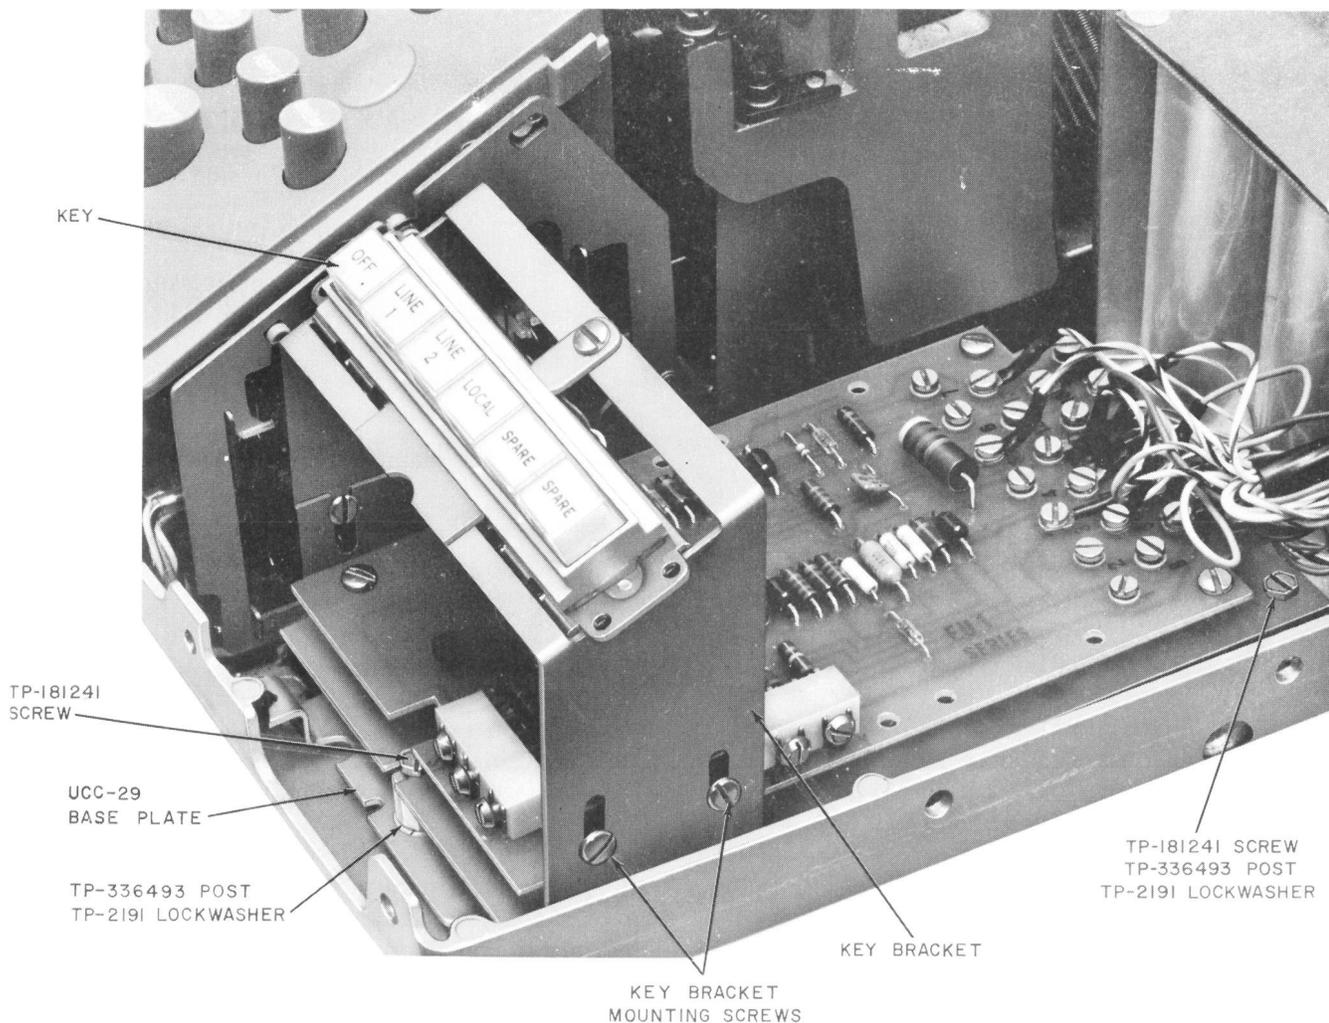

Fig. 1—Data Set 109C-L1 Installed in Model No. 33 Teletypewriter
1.01 This section provides a suggested maintenance procedure for Data Set 109C-type when installed in a model No. 33 or 35 teletypewriter (TTY) as part of a Data Line Concentrator System (DLCS) service. Figure 1 illustrates Data Set 109C-L1 installed in a model 33 TTY.